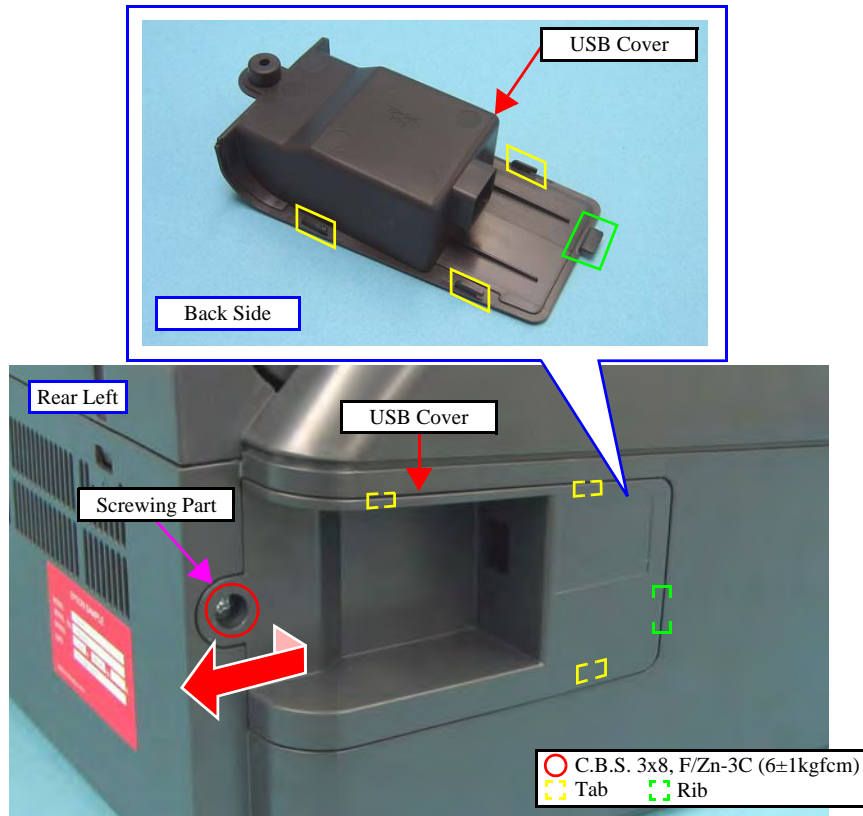

Figure 4-6. Removing the USB Cover
- When installing the USB Cover, match the tabs (x3) with the positioning holes (x3) of the Upper Housing as shown in Figure 4-6.